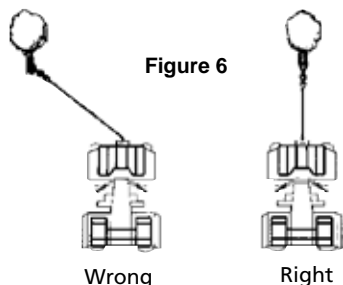

Figure 6
13. AVOID CONTINUOUS PULLS FROM EXTREME ANGLES as this will cause the wire rope to pile up on one end of the drum. Figure 6. This can jam the wire rope in the winch, causing damage to the rope or the winch.